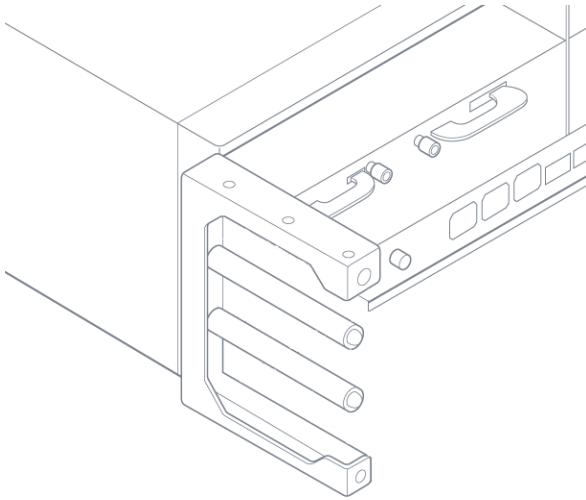

Figure 7: Cable Management Sides
2. Attach the cable management sides to the left and right of the chassis. Attach two screws on each side of the chassis as shown in Figure 7: Cable Management Sides for the left side.